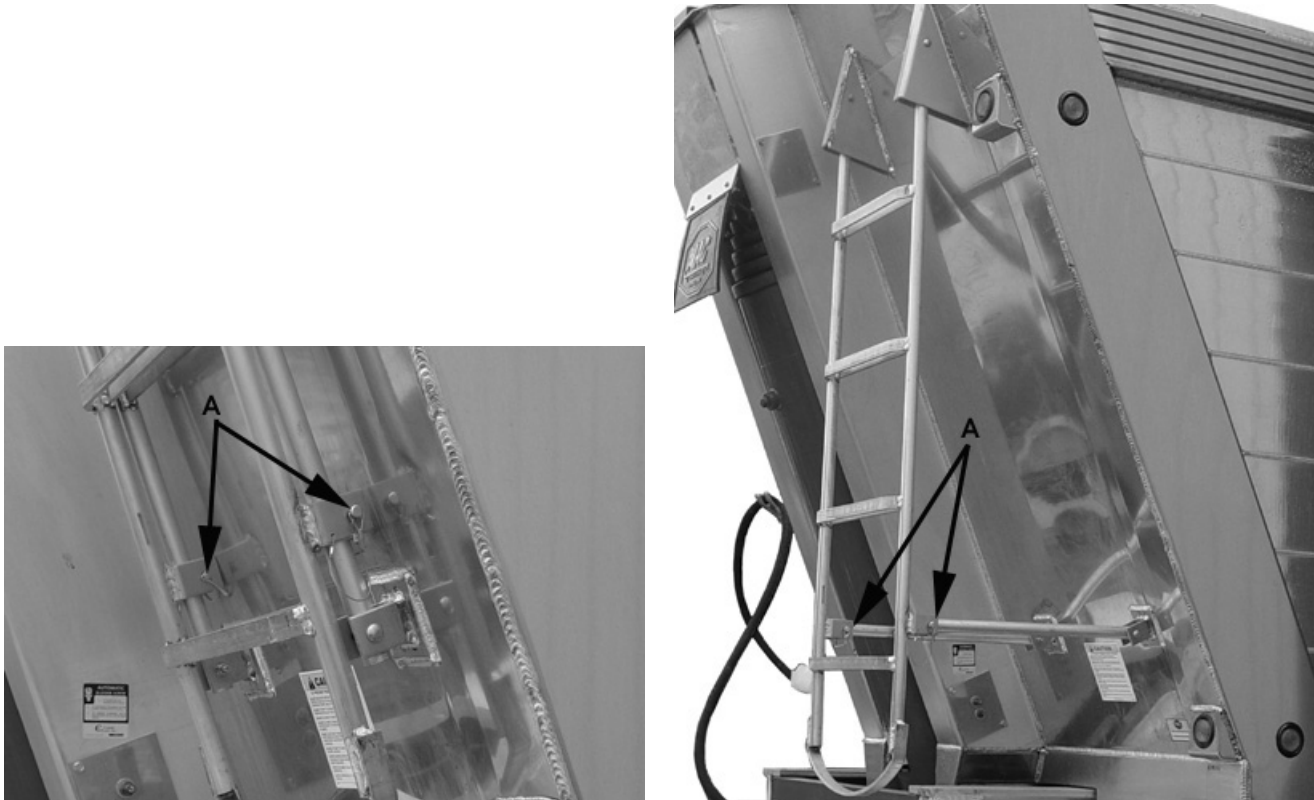

Figure 7-1 Fold-Away Ladder On Sloped Bulkhead Trailer
A sloped bulk head trailer can be equipped with a fold-away front ladder. To open the ladder, remove pins (A) and pull ladder outward. See figure 7-1.